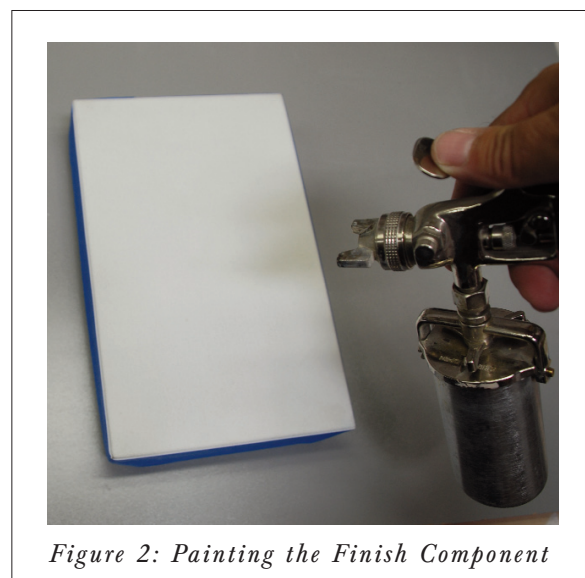

Figure 2: Painting the Finish Component
5. Use a small touch-up gun or capspray gun with a #3 tip for painting. Set the nozzle with a medium to wide fan, and set the pressure regulator to 60psi. Lightly spray the front of the Finish Component in three quick strokes from approximately 10 inches away. Paint at a slight angle to ensure that the paint covers the side walls of the perforations. Let the paint set for a minute, then turn the Finish Component 90° and repeat the painting process. (See Figure 2.)